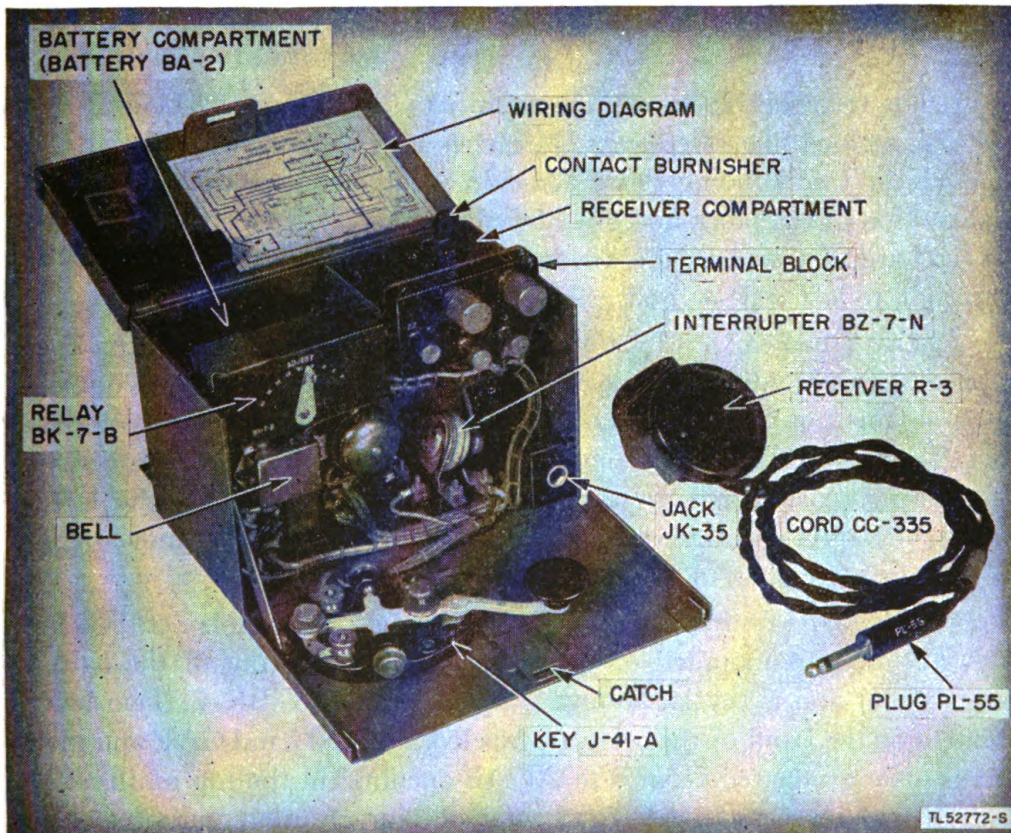

Figure 5. Telegraph Set TG-5-B, cover open.
(3) *Relay BK-7-B.* Relay BK-7-B is part of Telegraph Set TG-5-B only. The relay is mounted on a bracket in front of the battery compartment and is similar in appearance to Relays BK-7 and BK-7-A. One lever, mounted on the front of the relay case, is labeled ADJUST and moves over a scale graduated from 0 to 40. The armature remains in a fixed position in this relay and the lever adjusts only the spring tension on the movable contact. An opening, in the top of the relay case, provides access to the relay contacts. This opening is provided with a small clip-on metal cover. (See fig. 5.)
i. INTERRUPTER BZ-7-N (fig. 5). Interrupter BZ-7-N is part of Telegraph Set TG-5-B and is mounted in front of and below the receiver compartment. This interrupter is electrically similar to Interrupter BZ-7-A but much smaller in size, and is designed to operate when held in any position.